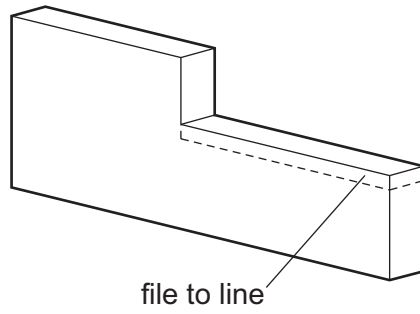

Fig. 6
- 9 Explain the purpose of the safe edge on a hand file when filing the corner of the shape shown in Fig. 6.